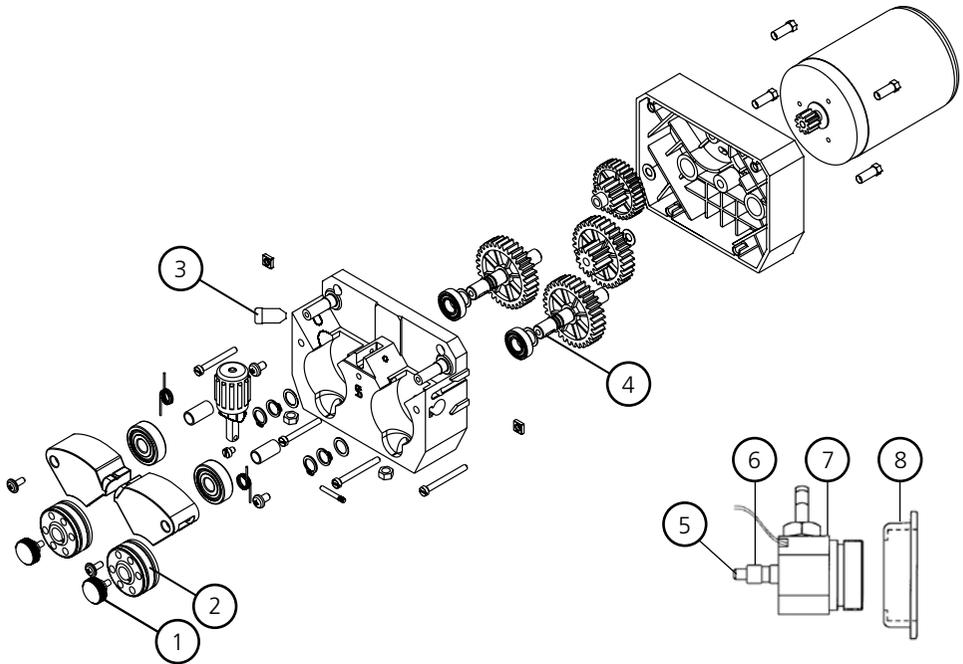

Fig 8 Wirefeed Assembly
At the gun end, compress the liner within the gun cable, then cut it **approx 20 mm past the end of the body tube/neck** (5) (the diameter of the gas diffuser is 20 mm and can be used as a guide) - see Figure 8.